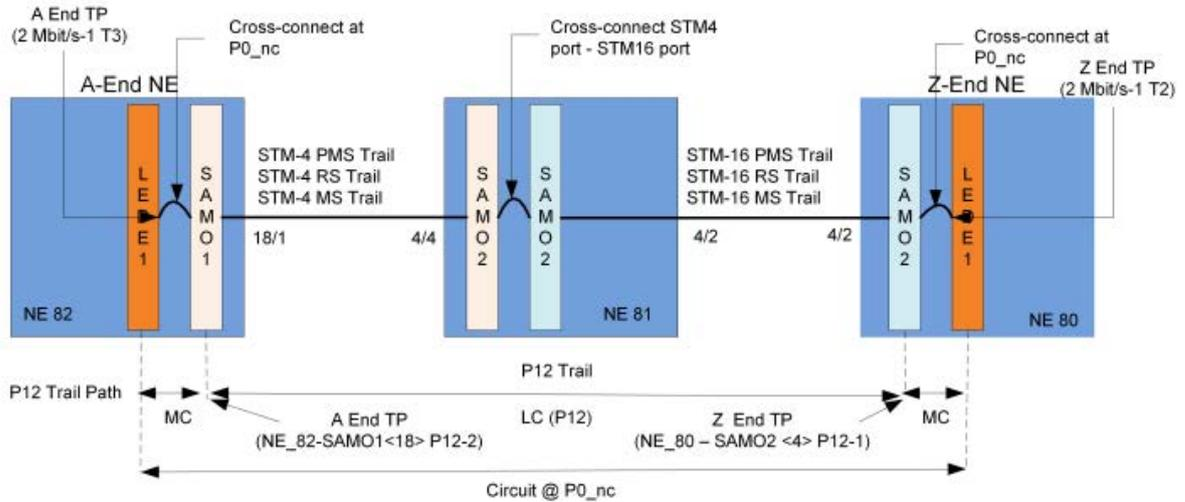

Figure 15: Circuit Working Path
- 2 When the Status becomes “Valid” the Circuit with its Path as shown in Figure 15 is created. The network can now transport the signal end-to-end.